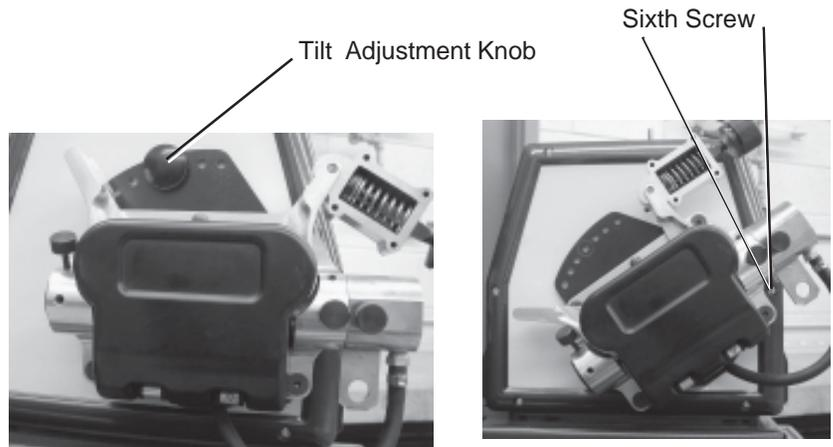

Figure 2
- c. For access to the panel screw behind the drive stand, remove the "Tilt Adjustment" knob above the drive stand and tilt the drive stand to the top position (see Figure 2). Remove the sixth screw (see Figure 3).